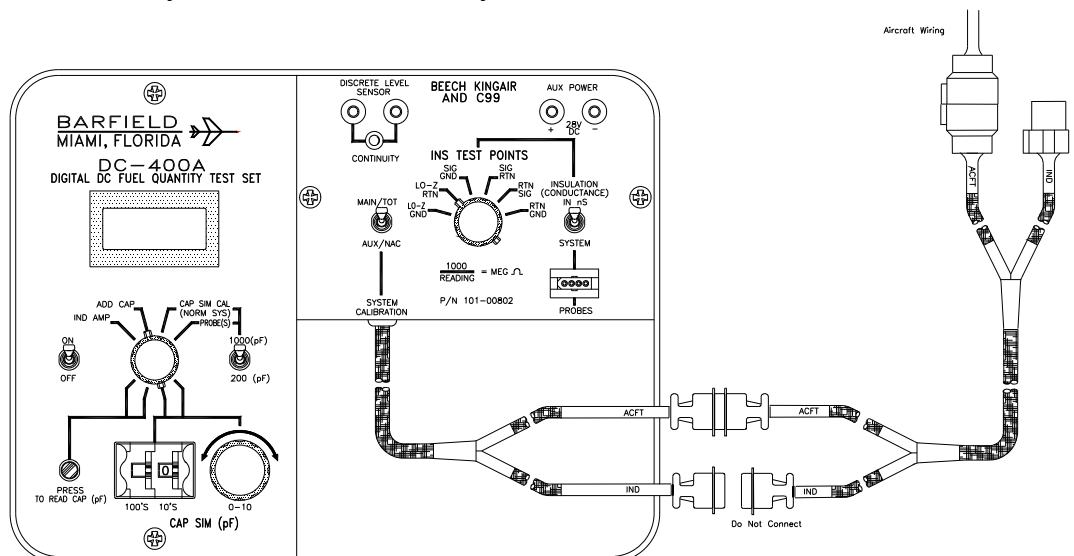
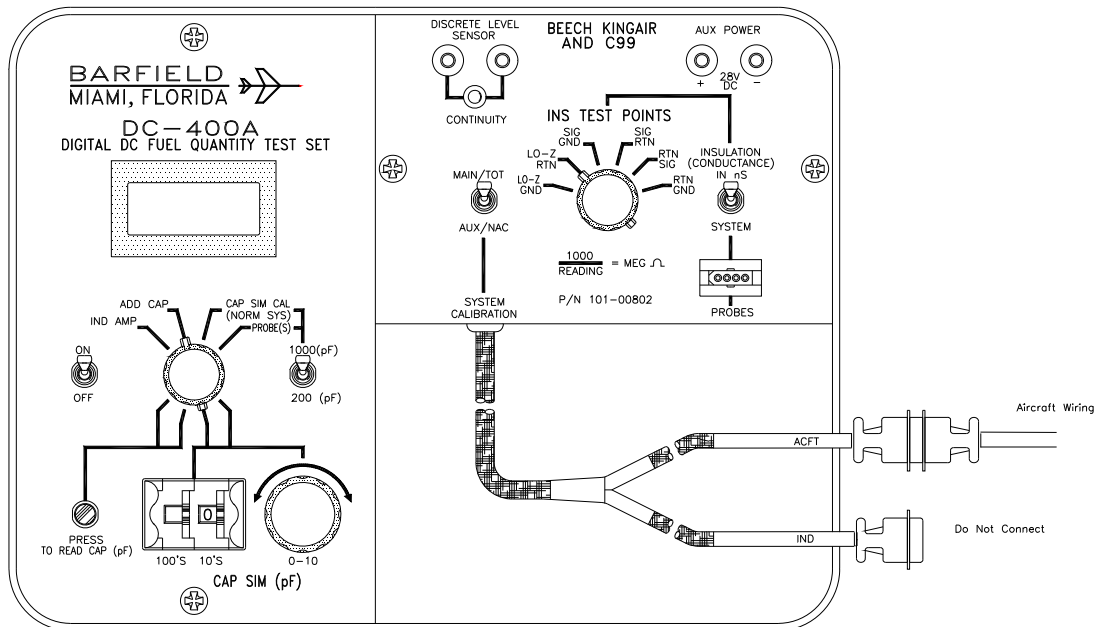

Figure 3 Capacitance Test Connector Setup (With 101-00831 Adapter)
Figure 4 Capacitance Test Connector Setup
- (1) Connect the test set as shown in either Figure 3 or Figure 4. Figure 3 depicts using Adapter Cable 101-00831 for conversion to systems with circular style connectors.